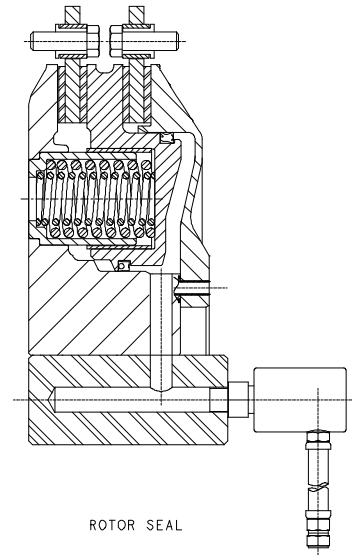

Figure 3
- 2.1.1 The friction discs in the CBC can be attached to the machinery in a variety of different methods or combination of methods, depending on the machinery requirements. Figures 3 through 8 show some of the more common arrangements based on the use of short arms, long arms, or 12 guide bushings.
The following procedures cover installation of the bushings (31), when used to support the clutch or brake discs, as shown in Figures 3, 4 & 5.
2.3.1 Loosen the socket head screws (20) that secure the strap (19) to the two halves of the clutch or brake friction disc.